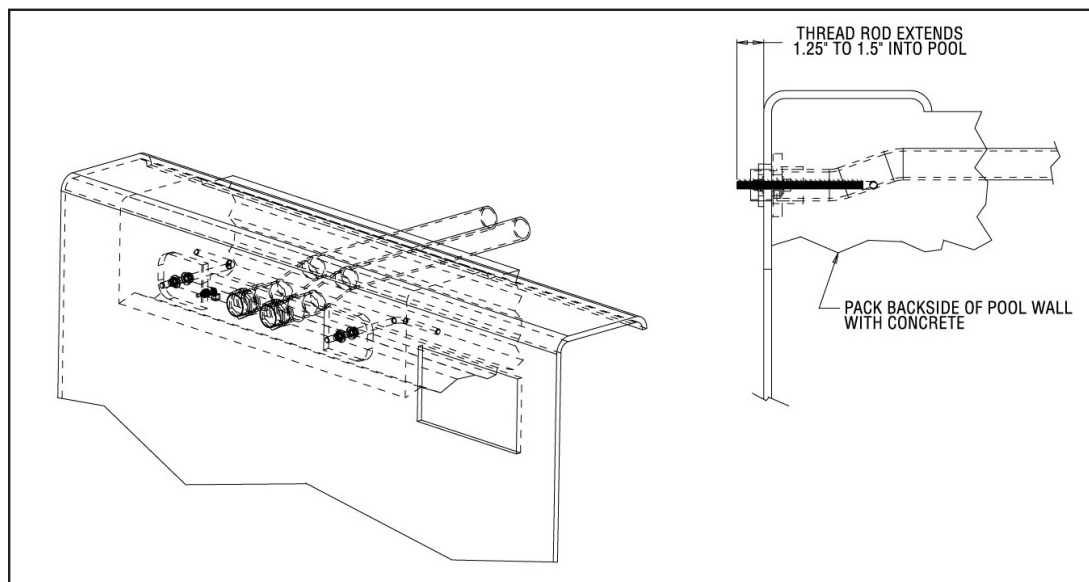

Fig. 4.10
- Thread the 3/8" threaded rod into the holes in the cut off end pieces, so that once permanently installed, 1-1/4" to 1-1/2" of threaded rod will penetrate beyond the pool wall surface. Refer to Figure 4.10. To help prevent cross threading, thoroughly clean the exposed end of the threaded rods of any excess fiberglass before threading nuts onto the threaded rods.
- Thread the 3/8" threaded rod into the holes in the bracket, so that once the PVC bracket plate is permanently installed, 1-1/4" to 1-1/2" of threaded rod will penetrate beyond the pool wall surface. Refer to Figure 4.10. To help prevent cross threading, thoroughly clean the exposed thread of any excess fiberglass before threading nuts onto the threaded rods.
Pour the concrete collar around the top flange of the pool, securely encasing the threaded rod assemblies and conduit (with possible adapters) in place. Even if a bond beam is not being poured for the pool, it is essential for the operation of the Fastlane that this assembly be securely anchored in concrete. Refer to Figure 4.10. Only when the concrete has cured is it okay to remove the washers and jam nuts and install the Fastlane.